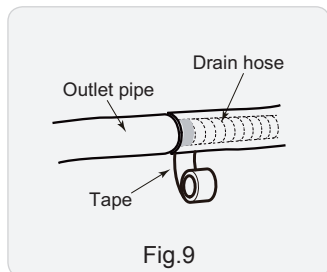

Fig.9
(2) Bind the joint with tape.(As show in Fig.9)